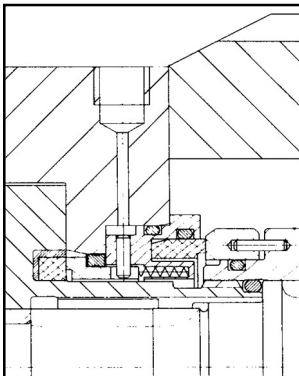

Figure 16
a) To re-assemble, place O-Ring (51) in double seal housing (45), lubricate outside of static seat with a suitable lubricant compatible with the barrier fluid. Align holes in seal face with pins in seal housing (see figure 16) and push seat fully in.
b) Fit O-ring (46) to rotor retainer (28). Gently push seal seat squarely on to rotor retainer, aligning hole in rear of seal face with pin on the support ring. Ensure that the face is free to move against the springs.